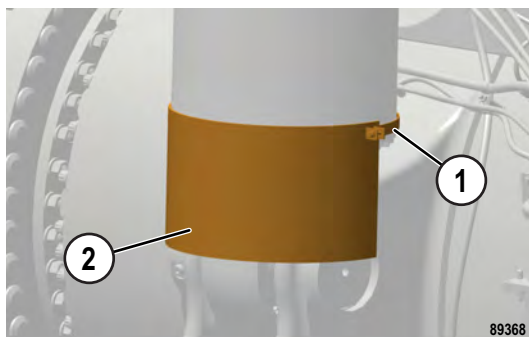

FIGURE 50-31. BOOT REMOVAL
1. Remove the clamp (1, Figure 50-31) and boot (2) from the rear suspension.